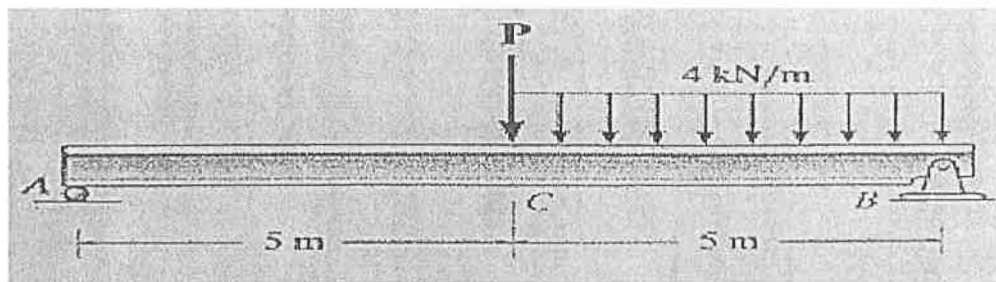

Figure 3
3. A simple supported beam is loaded as shown in Figure 3.
- a) Sketch a free body diagram for beam as in Figure 3 and calculate the reaction force if $P = 20\text{kN}$